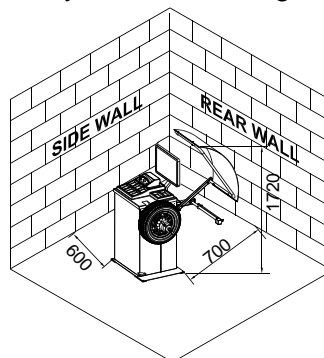

Fig. 1
- The clearances from side walls and roof should be adequate so that the Wheel guard can be opened completely and the mounting / removal of wheels can be done easily as shown in Fig.1.